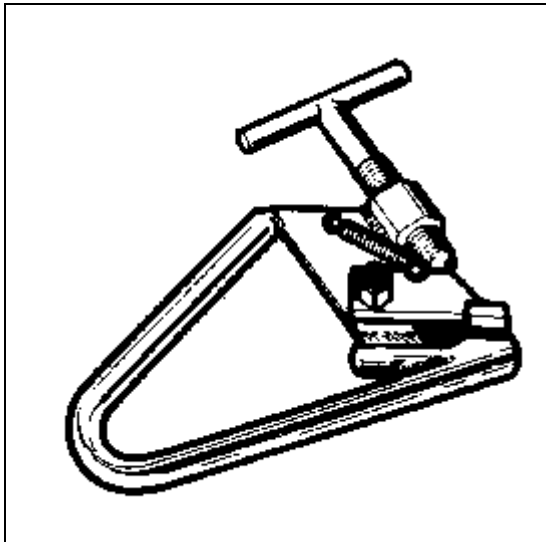

Fig.6
**#14009472 Mounting clamp** (Fig.6).